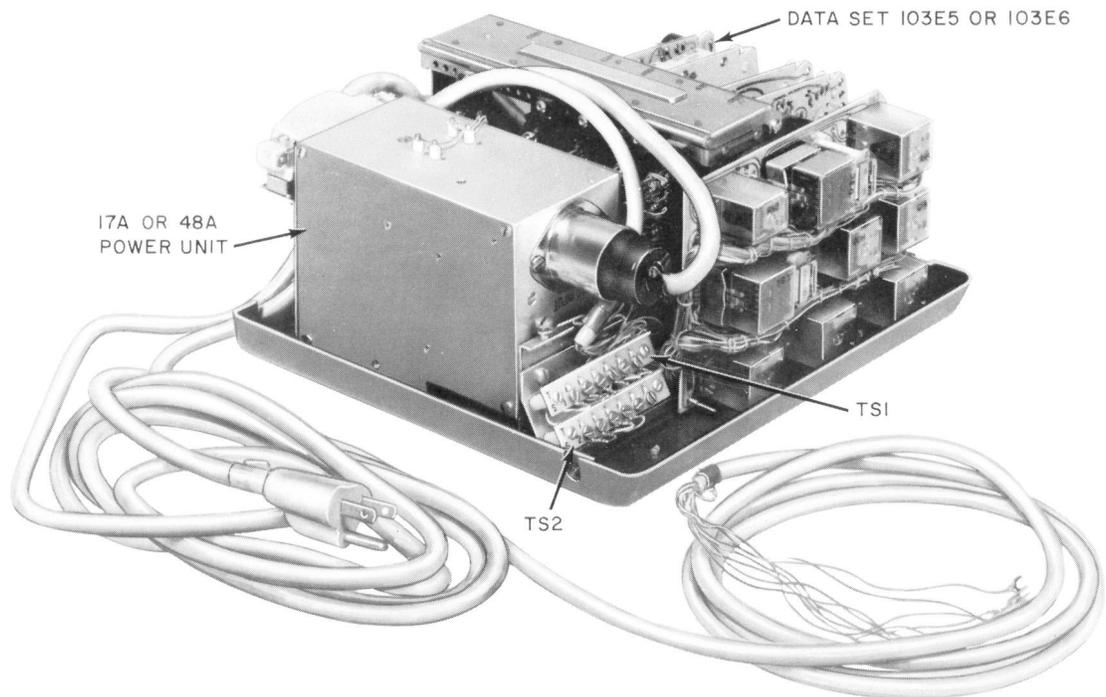

Fig. 2—Data Set 103H-Type—Cover Removed
4.02 Removal (Fig. 2):
5.01 Removal (Fig. 2):